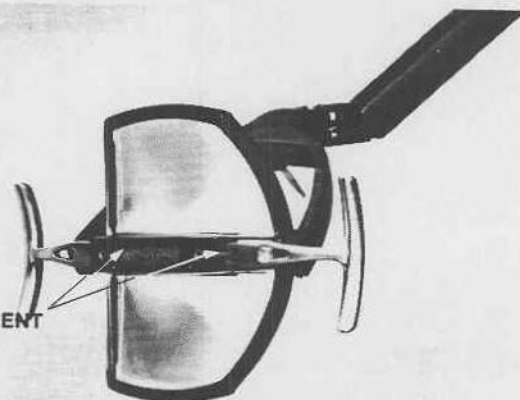
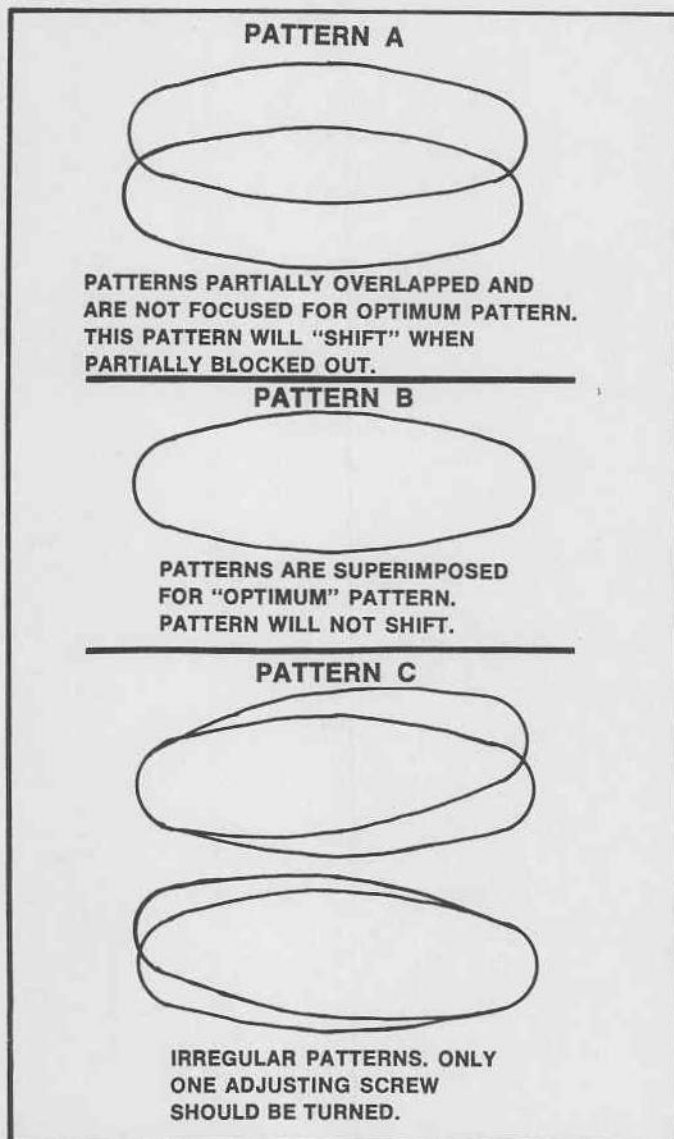

FIGURE 2—ADJUSTMENT SCREWS FOR FOCUSING LAMP
FIGURE 3—FOCUSING LAMP PATTERNS
- Turn two screws on front of light (Figure 2) clockwise until both screws are tight. The patterns will now be partially overlapped as shown in Pattern A in Figure 3.
- Turn each screw counterclockwise equally one turn at a time until the patterns are superimposed as shown in Pattern B in Figure 3.
- If patterns are irregular as shown in Pattern C in Figure 3, turn only one screw until the patterns are superimposed.